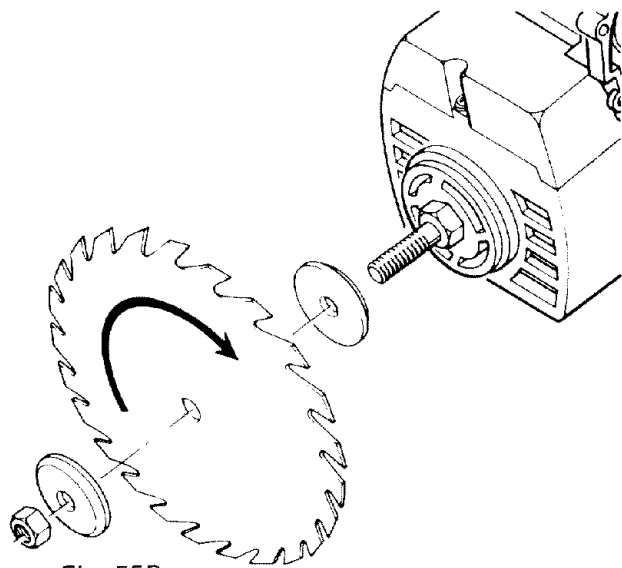

Fig. 55B
2. Place the *blade* on the *arbor shaft* with a **blade collar** on each side. Make sure that the directional arrow is on the outside of the *blade*, and the teeth are pointing down at the front side of the blade. (Figure 55B)